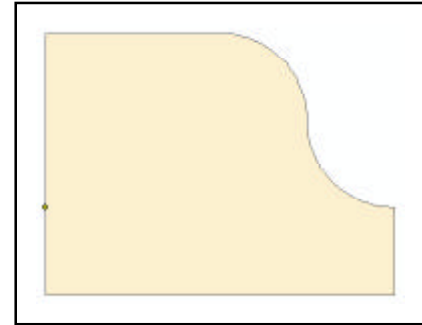
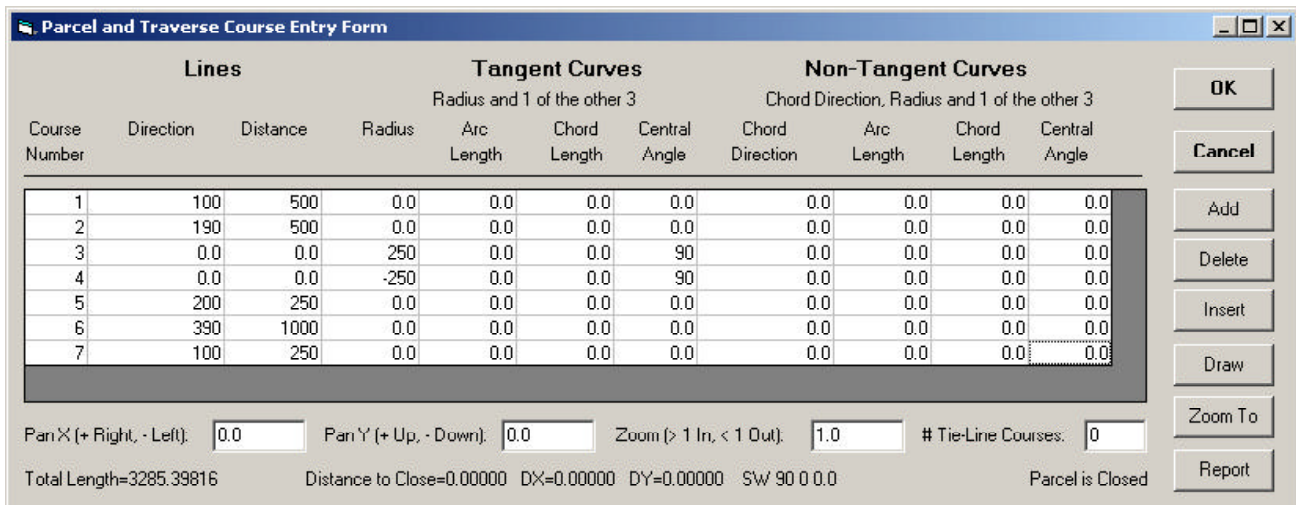

Figure 18
Figure 17 - Sample Parcel with Reverse Curve
- j. Shown in Figure 17 is a sample parcel with a reverse curve, while Figure 18 contains the polygon feature corresponding to the parcel definition listed in Figure 17.